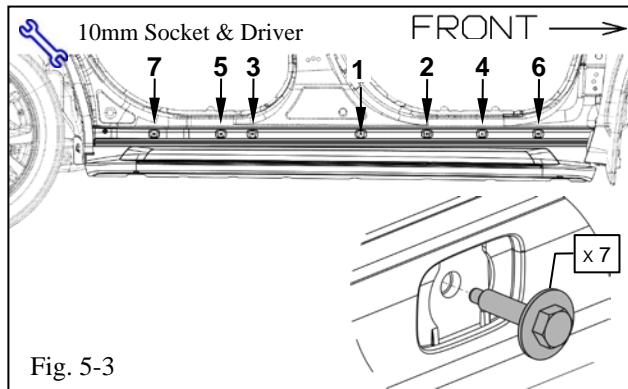

Fig. 5-3
(c) Insert and hand start one (1) M6 bolt ② at center hole #1 on the outer facing flange (Fig. 5-3).
(d) Insert and hand start six (6) M6 bolts ② at the remaining locations on the outer facing flange (Fig. 5-3).
(e) Tighten and torque the bolts to 7 N·m per the sequence indicated in Fig. 5-3.